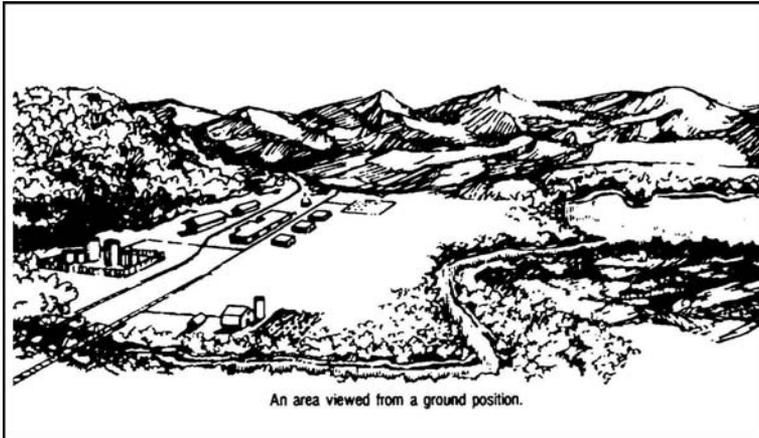

Figure 071-329-1012-1. Features used to orient a map
1. Match terrain features appearing on your map with physical features on the ground (figure 071-329-1012-1).